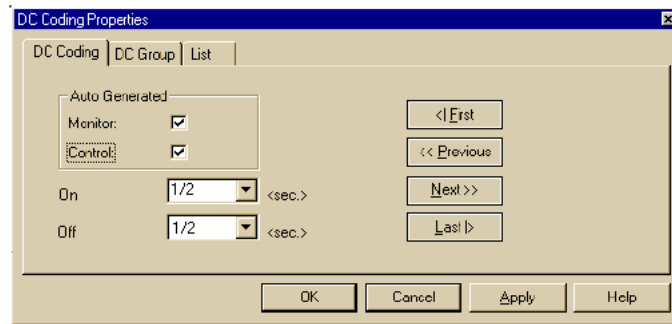

Figure 9-14. Coding Group Properties
1. Right click on the group and select Properties from the menu that appears. A screen similar to the one shown in Figure 9-14 appears.